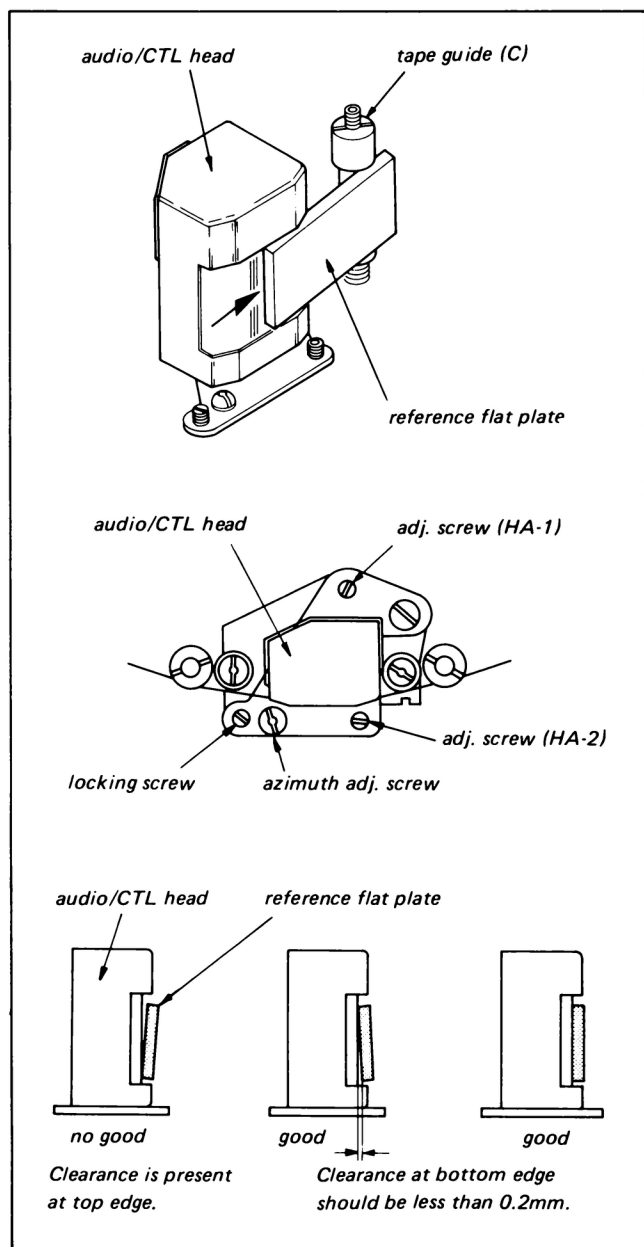

Fig. 8-7. Audio head height adj; Slantness adj.
7. If hue shift is observed at top of the monitor screen when playing back the color-bar segment of the alignment tape, adjust slantness of the audio/CTL head within the allowable range shown in Fig. 8-7.
5. When the level increases more than the specification when the (A) section is pushed downward, adjust as follows.
- (iii) Set the reference flat plate (Jig Ref. No. J-9) upon the tape guide (C) and the audio head as shown in Fig. 8-7. Adjust the adjusting screws (HA-1 & HA-2) and the azimuth adjusting screw for no clearance among the reference flat plate, the tape guide and the head. (Slantness adjustment)
6. When the level increases more than the specification when the (B) section is pushed up, adjust as follows.